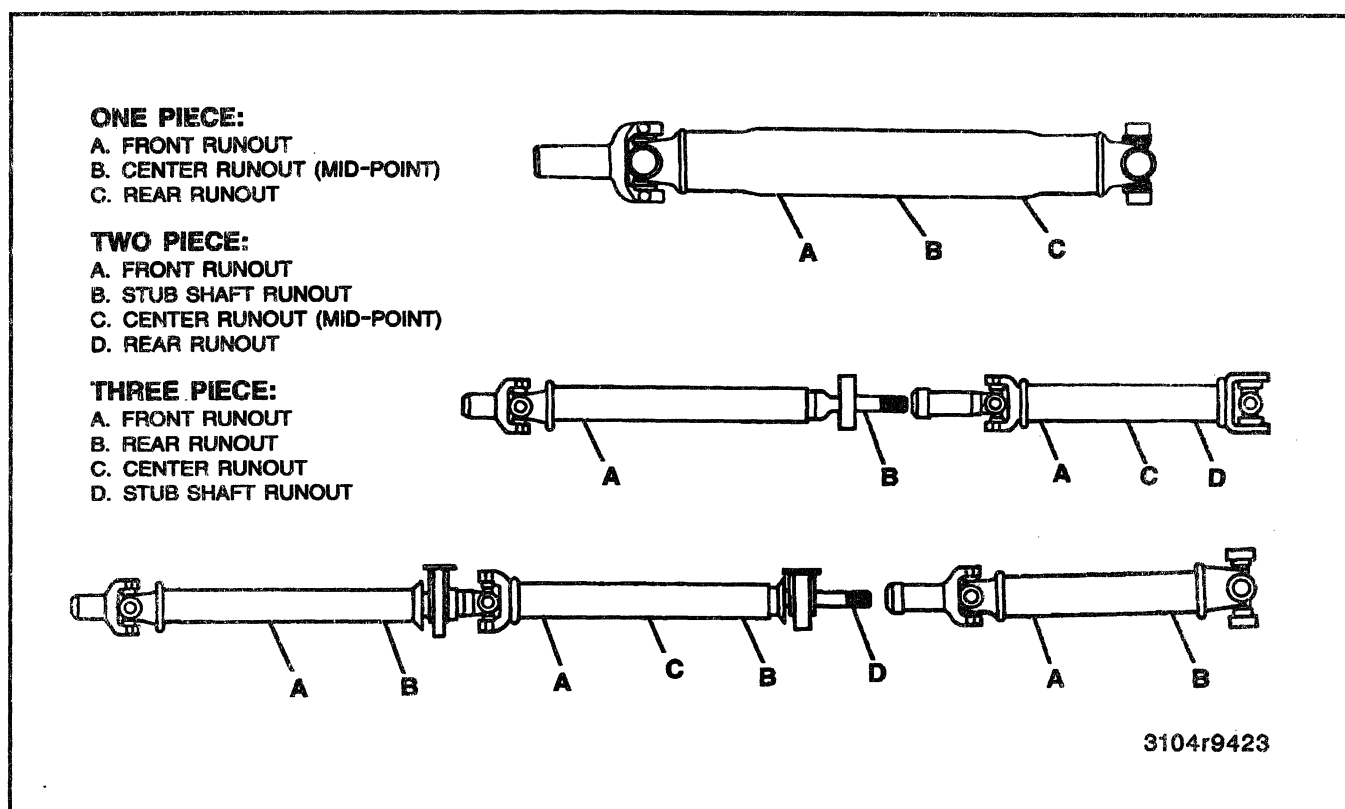

Figure 7—Propeller Shaft Runout Check Points
4. With the transmission in neutral, hand rotate one wheel or the axle pinion flange or the transmission yoke and take the necessary dial indicator readings on the propeller shaft. Record the readings. On models having a two-piece driveline, measure the rear propeller shaft runout (Figure 7).
5. Reference mark the position of the rear propeller shaft yoke to the pinion flange, then remove the rear propeller shaft and measure the front propeller shaft runout on the tube and at the specified location on the splined shaft end (Figure 7).